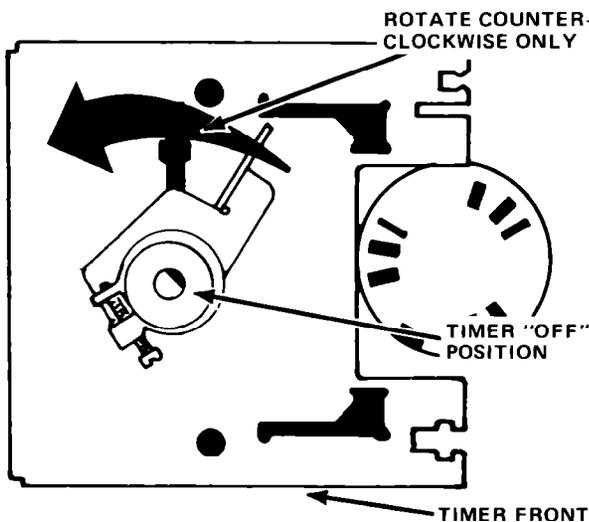

Figure 14
**Note:** On coin operated models the timer may be turned by using the clutch assembly as a knob. Rotate the clutch assembly counter-clockwise until the washer starts to fill with water. When the proper water level is reached, slowly rotate the clutch assembly counter-clockwise until the "off" position is reached. (See Figure 14.)